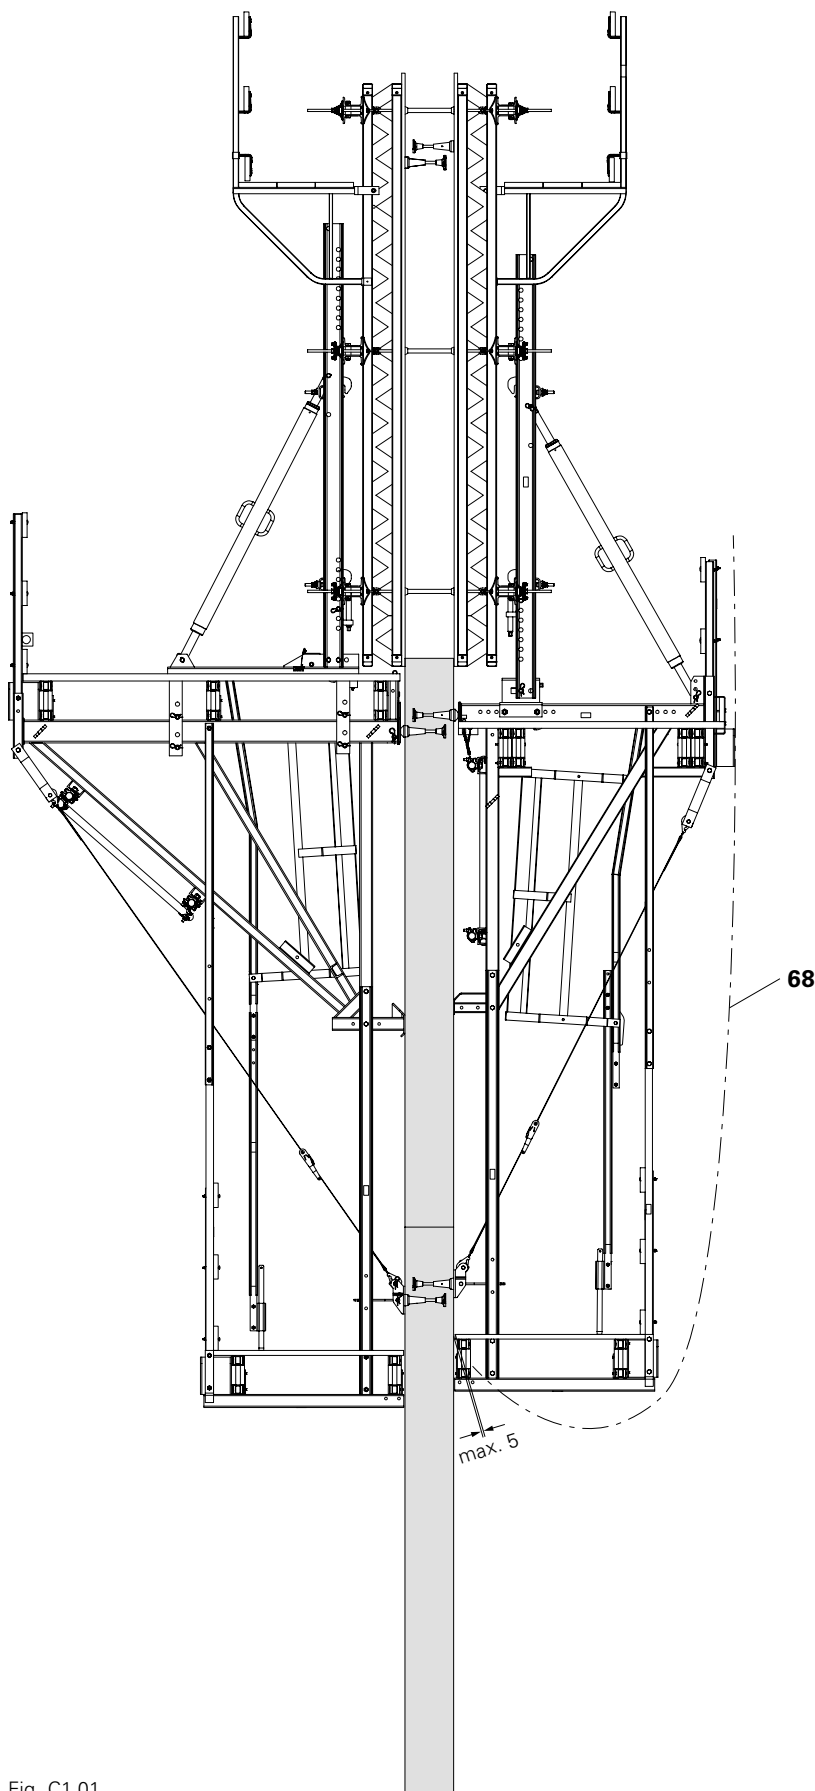

Fig. C1.01
- The spacing between the decking of adjacent platforms must not exceed 2 cm. Larger gaps are to be covered with non-movable suitable materials or safety nets (68) with a max. mesh size of 2 cm are to be used.
- (Fig. C1.01)